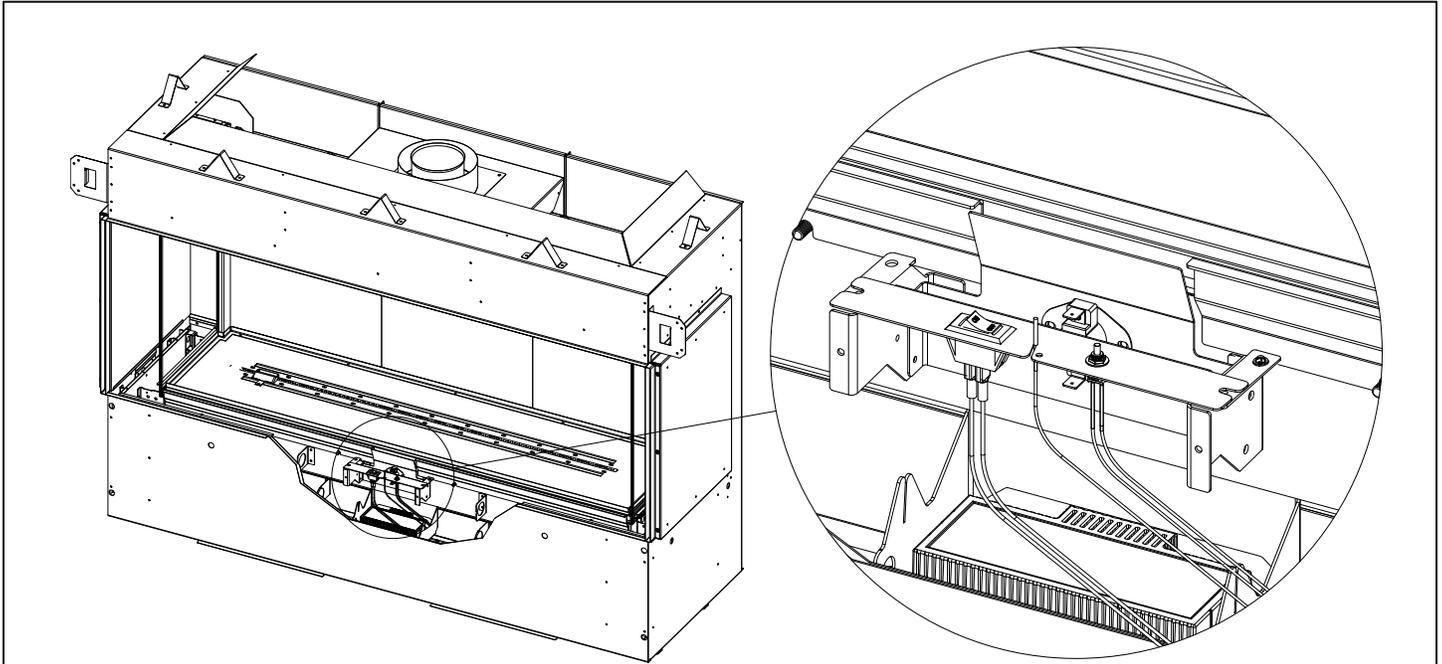

Figure 4.17 - Switch Panel
4. Remove the (2) sheet metal screws that secure the switch panel. Lift this panel off its support bracket and locate the slits in the control module brackets. Slide the switch panel into these openings to secure it during control board removal. Figure 4.17 and 4.18.